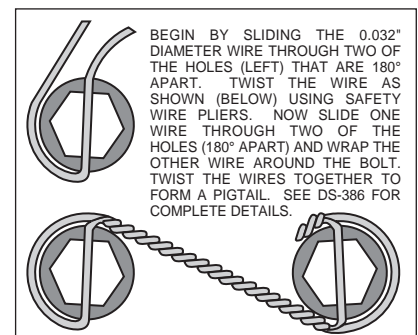

Figure 3. Safety Wire Diagram
- Apply red *Loctite*® 271 to bolt threads (2 and 4) before assembly of the caliper bracket (1) to backing plate face of spindle. Then install bolt (4) through caliper bracket (1), spindle face and the steering arm. Finger tighten the bolt (4) with lock nut (5). Install and finger tighten two bolts (2) with lock nuts (3). Torque two bolts (2) to 47 ft-lb. Torque bolt (4) to 120 ft-lb. **NOTE:** Be sure the heads of the caliper bracket (1) insert nuts are facing outward toward the wheel.
- Install five new wheel studs (6) into the hub (7). Torque to 77 ft-lb. **NOTE:** There are two five lug patterns in the hub (5 x 4.00 and 5 x 4.50). Make sure of the correct hole pattern for the correct wheel application before installing studs into hub.
- Pack the large inner bearing cone (8) with high temperature disc brake bearing grease (available from your local auto parts store) and install into the backside of the hub (7).
- Install the grease seal (9) by pressing into the backside of the hub (7).
- Attach rotor adapter (10) to rotor (11) using six bolts (12). Torque bolts (12) to 180 **in-lb**. Safety wire bolts (12) using standard 0.032 inch diameter stainless steel safety wire as shown in Figure 3. Please refer to Wilwood's data sheet DS-386 (available at www.wilwood.com/pdf/ds386.pdf) for complete safety wire installation instructions. **NOTE:** The flat side of the rotor (11) lugs face toward the rotor adapter (10) with the dished side of the rotor adapter (10) facing away from the rotor (11).
- Mount the adapter/rotor assembly (10 and 11) to the hub (7) using six bolts (13). Torque bolts (13) to 22 ft-lb. Safety wire bolts (13).
- Pack the small outer bearing cone (14) with high temperature disc brake bearing grease. Lightly coat the spindle bearing surfaces with bearing grease. Slide the hub/rotor assembly (7 and 11) with outer bearing cone (14) onto the spindle. Secure using spindle washer (15), existing adjusting nut and nut locking device.